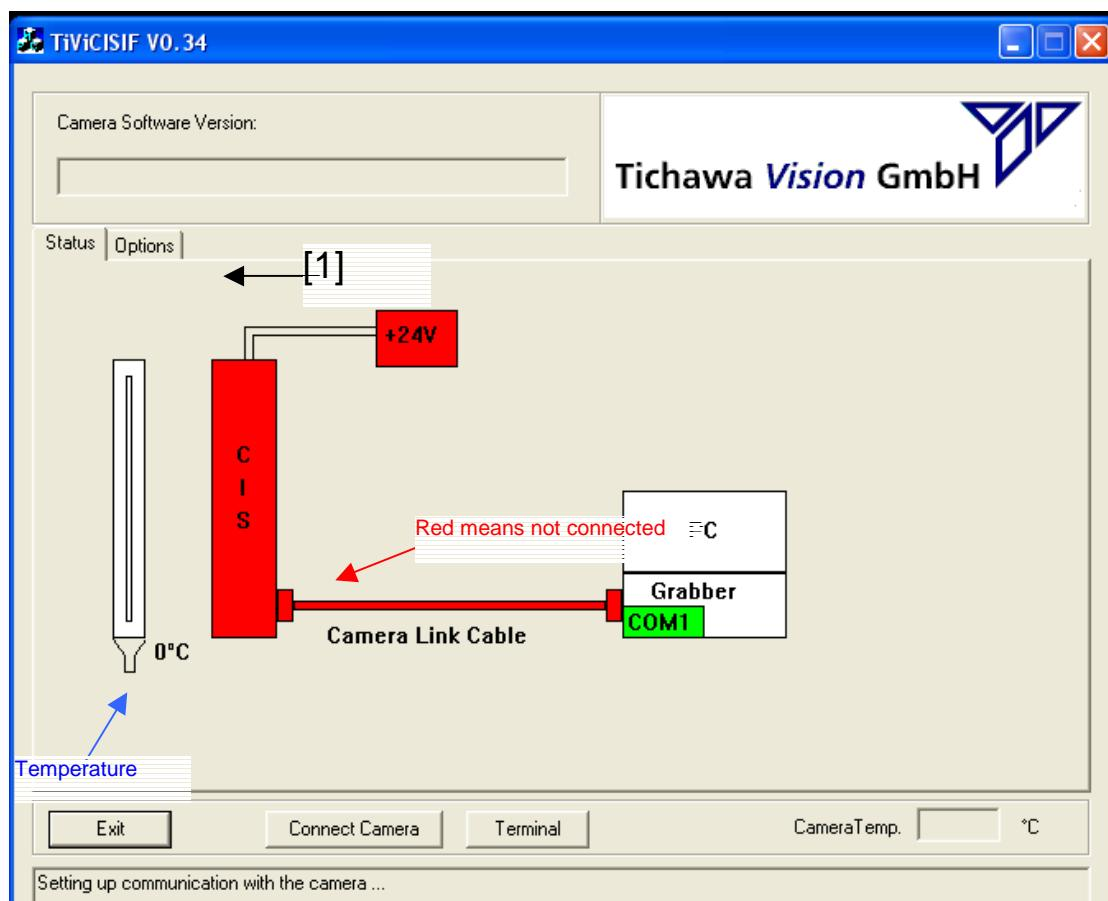
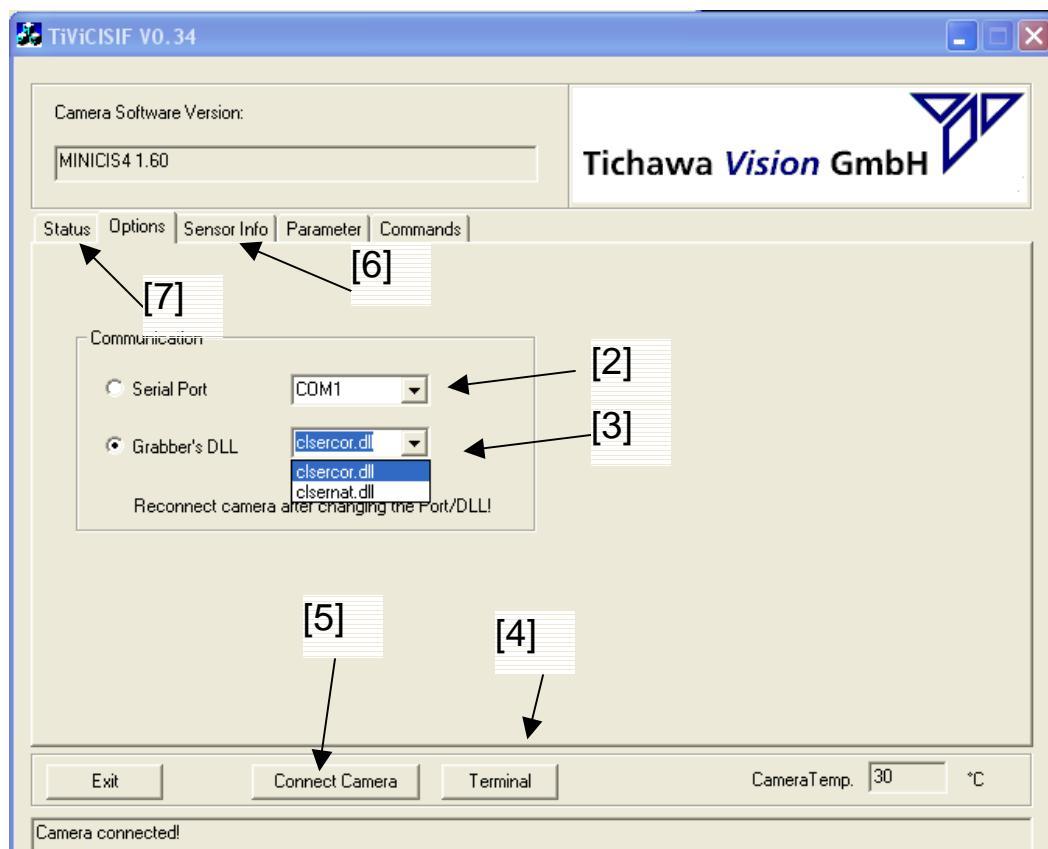

Figure 1 – Status
Figure 2 – Options
- I. serial communication over an COM port [2] (**figure 2**)
- II. serial communication over the grabber dll file [3] (**figure 2**)
- e) after you chose the communication type connect the camera [4] (**figure 2**)
- f) if the communication was right the software will show "camera connected" [5] (**figure 2**)and open more menus. If you go back to the status menu the red parts will be green now [7] (**figure 2**), (**figure 1**)
- h) To check the hardware parameters of the CIS go to the menu "sensor info" [6] (**figure 2**)